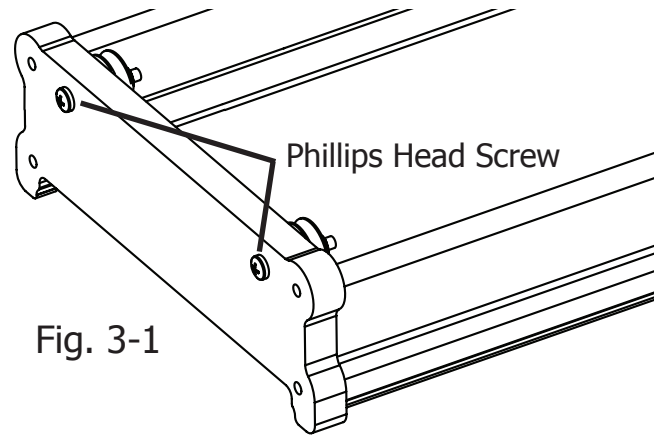

Fig. 3-1
**NOTE: THE WHEELS ON ONE END OF THE BOTTOM PLATE ARE ATTACHED AS SHOWN IN Fig. 3-1. REMOVE ONE OF THESE WHEELS IN STEP 3-1.** The wheels attached to the other end of the Bottom Plate can't be used to attach an encoder.